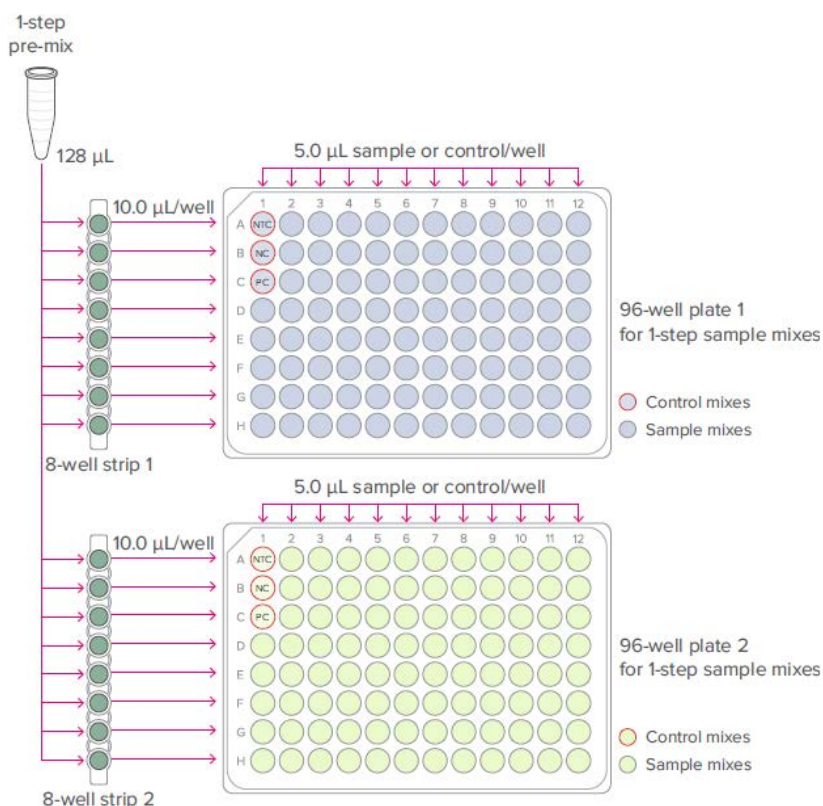

Figure 1. 1-step reaction plates (per-well transfer volumes)
- 5 Using an 8-channel pipette, combine the 1-step pre-mix and the samples or controls in 2 new 96-well plates as shown in Figure 1 on page 18.
- b Next, add 5.0 µL of each control into wells A1 (NTC), B1 (NC), and C1 (PC) of each plate.